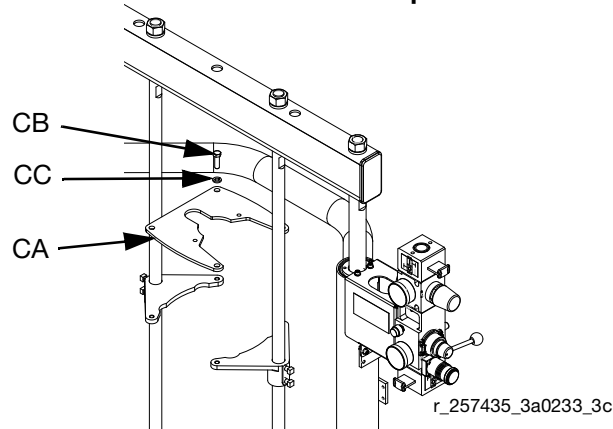

FIG. 10
1. Position the mounting brackets (42) so that the top of the pump will clear the support beam (4).
2. For President, Monark Check-Mate 200, and Fire-Ball Pumps only, install the mounting plate (CA) onto the mounting brackets (42) using four screws (CB) and lockwashers (CC). See FIG. 10.